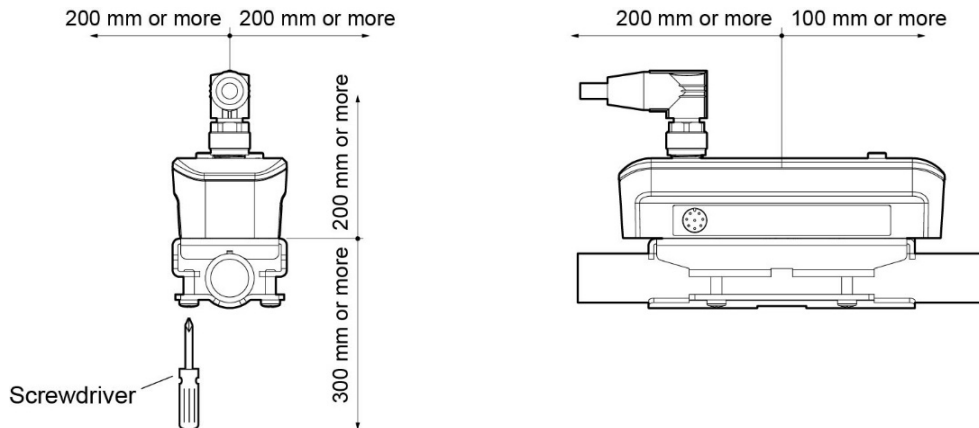

Fig. 2-1 Space required for flowmeter mounting location
- (1) Ensure that the location is a straight pipe as indicated in “2.1.1 Conditions on straight pipe”.
- (2) Ensure there is space for maintenance around the pipe to which the flowmeter is to be mounted. (Refer to “Fig. 2-1”.)